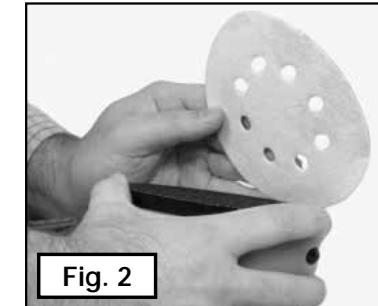

Fig. 2
3. Hold the pad with one hand to keep it from rotating (Fig. 2).